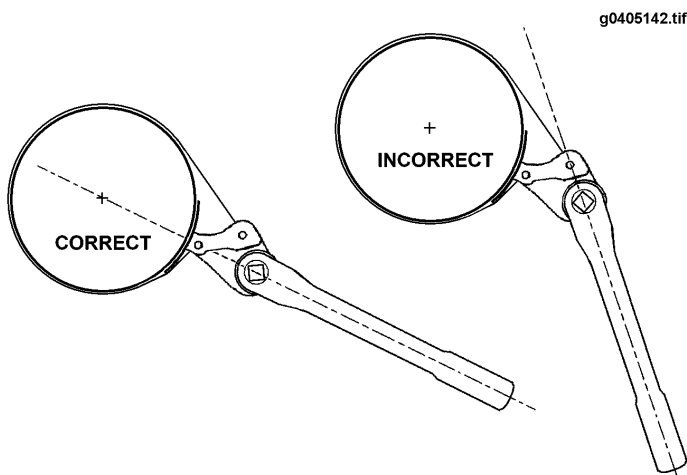

Figure 42 Correct Torque Wrench Orientation
3. Install the new accumulator and tighten by hand until snug. Then, tighten the accumulator using a torque wrench with a strap wrench attachment. Torque at the accumulator mounting must be 58.8 to 67.8 Nm (43.4 to 50 Lbf-ft). To achieve this using a torque wrench with a strap wrench head, use a torque range of 51.5 to 56.9 Nm (38 to 42 Lbf-ft), while keeping the wrench handle in line with the centerline axis of the accumulator. Refer to FIGURE 42.